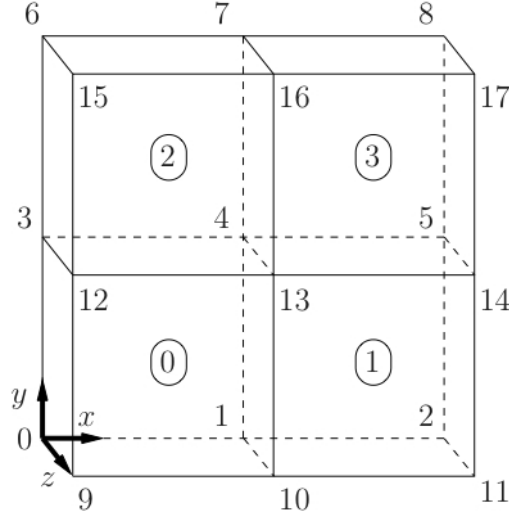

Figure 4: Geometry of lid-driven cavity.
4. In a graded mesh 4 block are required as shown in Fig. 4